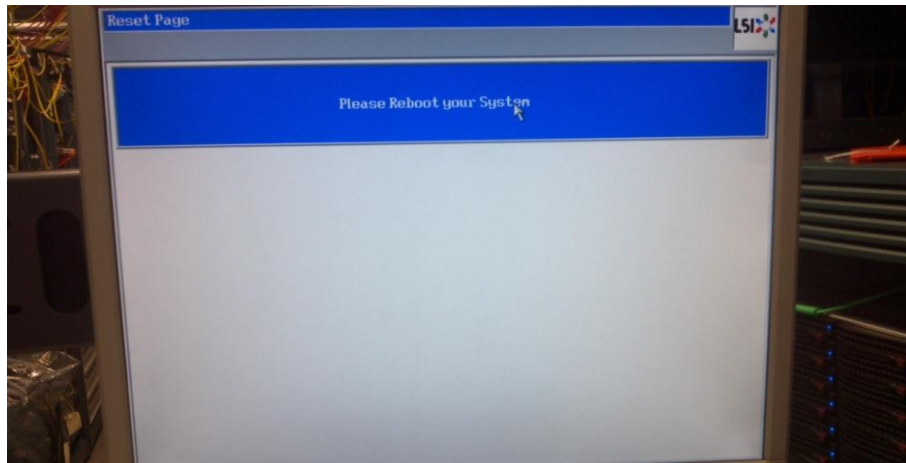

Figure 18: LSI Reboot prompt
9. Select Exit ->Yes ->reboot the server by turning on and off the power button. Please see figure 18 below